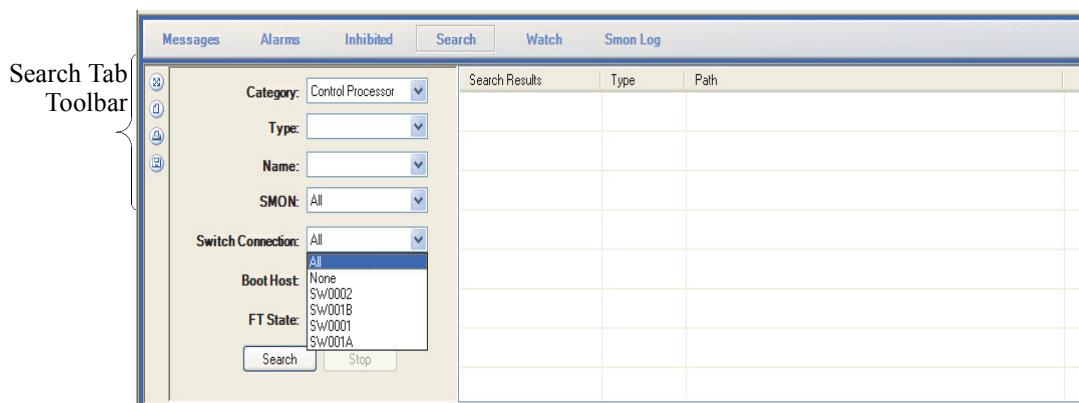

Figure 2-10. Accessories Pane, Search Tab
Use the Search tab (Figure 2-10) to find a specific piece of equipment based on a variety of search criteria such as name and equipment type, and then navigate to the equipment. The tab consists of fields on the left for specifying search criteria and a table on the right to display search results.
- To find a classic workstation or control processor, select **None** in the Switch Connection drop-down menu. **All** is the default option in the Switch Connection field. Refer to Figure 2-10.